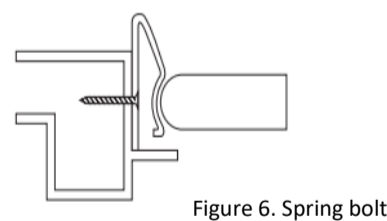

Figure 6. Spring bolt
- Finally, fix a spring bolt (Figure 6) to the lock-side door profile approximately 100 mm from the upper edge with 3.5 x 20 CSKH screws. Pre-drill a hole with a 3.2mm drill. Submerge the hole in the profile with e.g. 10 mm drill piece, (profile that keeps the door closed (NOTE: not for day-care doors)).